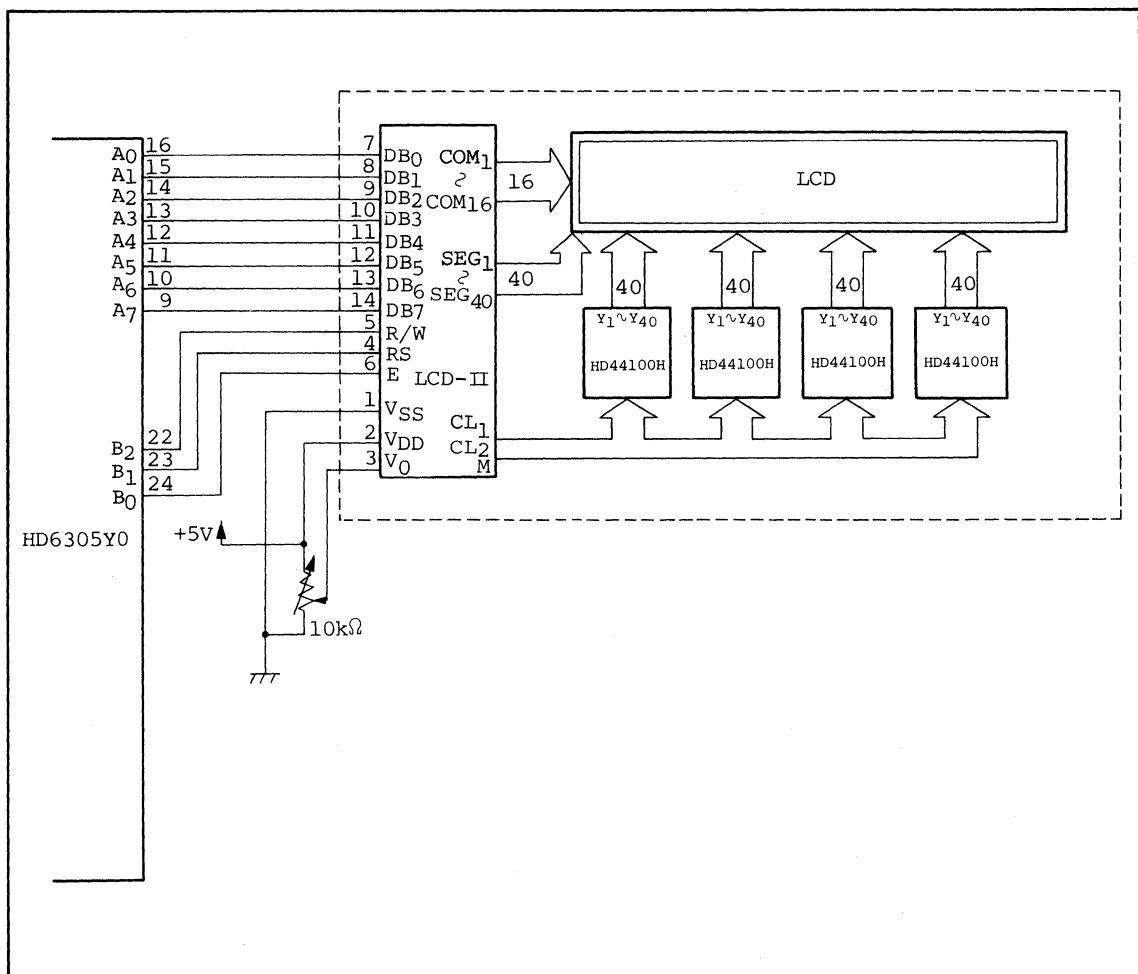

Fig. 2.21 Interface Circuit Between the HD6305Y0 and LCD-II
(1) Hardware and Operation Description
- (c) After receiving display data from the HD6305Y0 in ASCII code, the LCD-II drives the H2572 via the HD44100 liquid crystal drivers, as shown in Fig. 2.21.
(2) Microcomputer Applications
The HD6305Y0 displays characters on the H2572 by controlling the LCD-II data bus ($DB_0 \sim DB_7$) and control signals (E, RS and R/W) through ports A and B, as shown in Fig. 2.21.
The interface circuit between the HD6305Y0 and LCD-II is shown in Fig. 2.21.